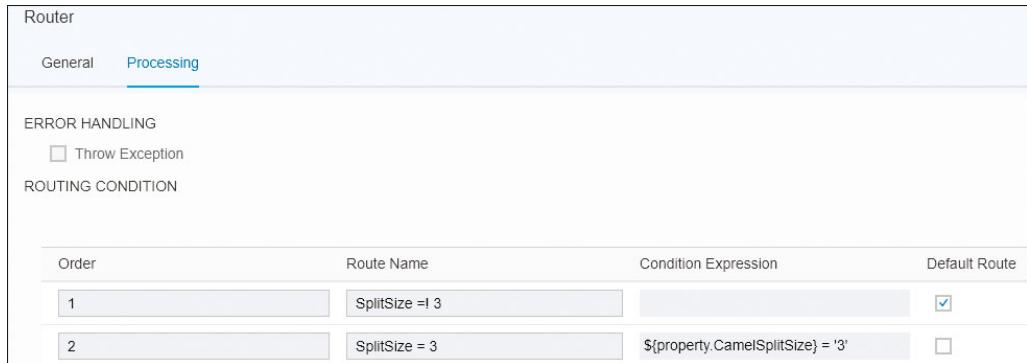

Figure 6.22 Routing Conditions
- We also explicitly show how the routing conditions should be defined in Figure 6.22.